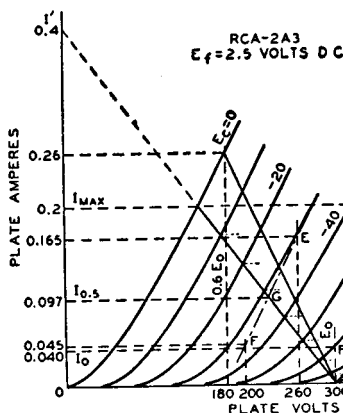
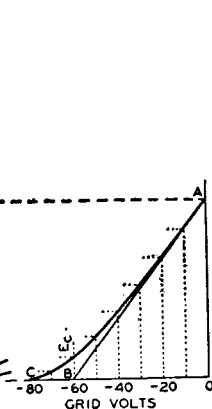

Fig. 24—Graphic calculations for class AB_1 amplifier using the 2A3 power triode.
Fig. 25—Instantaneous curve for class AB_1 amplifier.
point D in Fig. 24. Its position is not affected by the operating grid bias provided the plate-to-plate load resistance remains constant.
In general, for any load line through point D, Fig. 24, the plate-to-plate load resistance in ohms of a push-pull amplifier is $R_{pp} = 4E_o/I'$, where I' is the plate-current value in amperes at which the load line as projected intersects the plate-current axis, and E_o is in volts. This formula is another form of the one given under push-pull class A amplifiers, $R_{pp} = 4(E_o - 0.6E_o)/I_{max}$, but is more general. Power output = $(I_{max}/\sqrt{2})^2 \times R_{pp}/4$, where I_{max} is the peak plate current at zero grid volts for the load chosen. This formula simplified is $(I_{max})^2 \times R_{pp}/8$. The maximum-signal average plate current is $2I_{max}/\pi$ or $0.636 I_{max}$; the maximum-signal average power input is $0.636 I_{max} \times E_o$.
Example: Fig. 24 illustrates the application of this method to a pair of 2A3's operated at $E_o = 300$ volts. Each tube has a plate-dissipation rating of 15 watts. The method is to erect a vertical line at 0.6 E_o , or at 180 volts, which intersects the $E_c = 0$ curve at the point $I_{max} = 0.26$ ampere. Using the simplified formulas, the following values are obtained:
The operating bias and the zero-signal plate current may then be found by use of a curve which is derived from the plate family and the load line. Fig. 25 is a curve of instantaneous values of plate current and dc grid-bias voltages taken from Fig. 24. Values of grid bias are read from each of the grid-bias curves of Fig. 24 along the load line and are transferred to Fig. 25 to produce the curved line from A to C. A tangent to this curve, starting at A, is drawn to intersect the grid-voltage abscissa. The point of intersection, B, is the operating grid bias for fixed-bias operation. In the example, the bias is —60 volts. Refer back to the plate family at the operating conditions of plate volts = 300 and grid bias = —60 volts; the zero-signal plate current per tube is seen to be 0.04 ampere.
tortion in a class AB_1 amplifier using triodes is very small and is largely canceled by virtue of the push-pull connection. Third-harmonic distortion, however, which may be larger than permissible, can be found by means of composite characteristic curves. A complete family of curves can be plotted, but for the present purpose only the one corresponding to a grid bias of one-half the peak grid-voltage swing is needed. In the example, the peak grid voltage per tube is 60 volts, and the half value is 30 volts. The composite curve, since it is nearly a straight line, can be constructed with only two points (see Fig. 24). These two points are obtained from deviations above and below the operating grid and plate voltages.
These steps provide points at 260 volts and 0.165 ampere (E), and at 200 volts and 0.045 ampere (F). A straight line through these points is the composite curve for a bias of -30 volts, shown as a long-short dash line in Fig. 24. At the intersection of the composite curve and the load line, G, the instantaneous composite plate current at the point of one-half the peak signal swing is determined. This current value, designated $I_{0.5}$ and the peak plate current, I_{max} , are used in the following formula